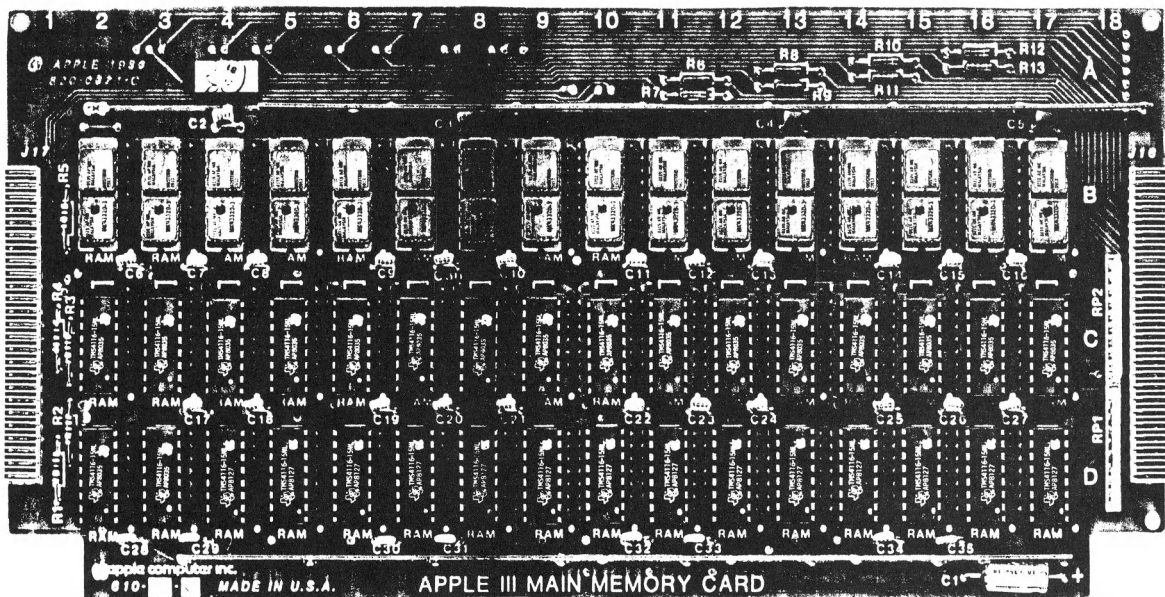

FIGURE 3 - 12V BOARD
- (1) Select the letter that corresponds to the correct memory size.
- (2) A screen will appear with the selected memory size. If this is correct, press the SPACE bar and the test will start. If the memory size is not correct, press the RETURN key and the second screen will reappear so that you may reselect the correct memory size.
4. The test will then check the RAM and report any failures. The 12V test gives RAM locations according to a grid of letters and numbers printed along the side and top of the 12V board (rows B, C, D; columns 2 through 17: see Figure 3).